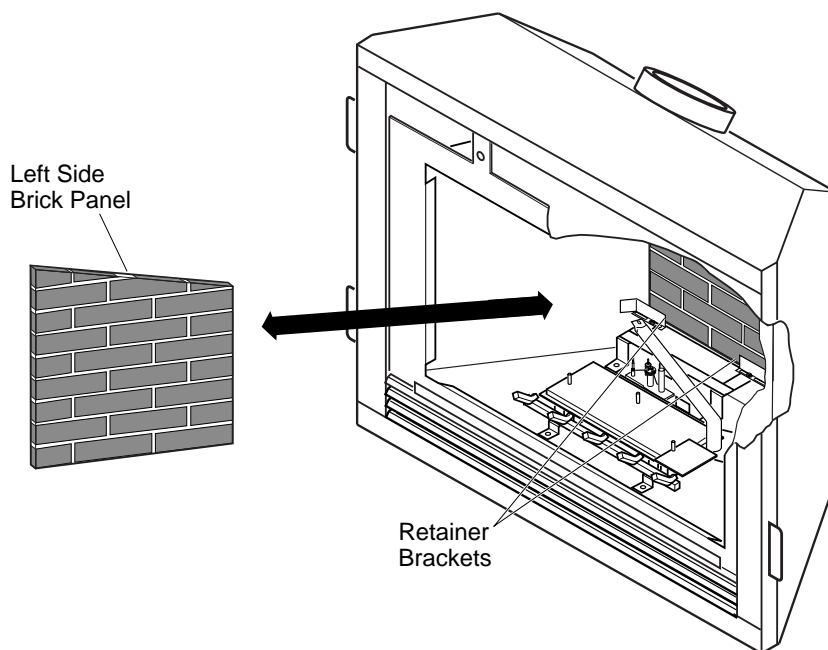

Figure 48 - Installing Left Side Brick Panel
5. Install left side brick panel by sliding it between the grate and the side of the firebox (see Figure 48).